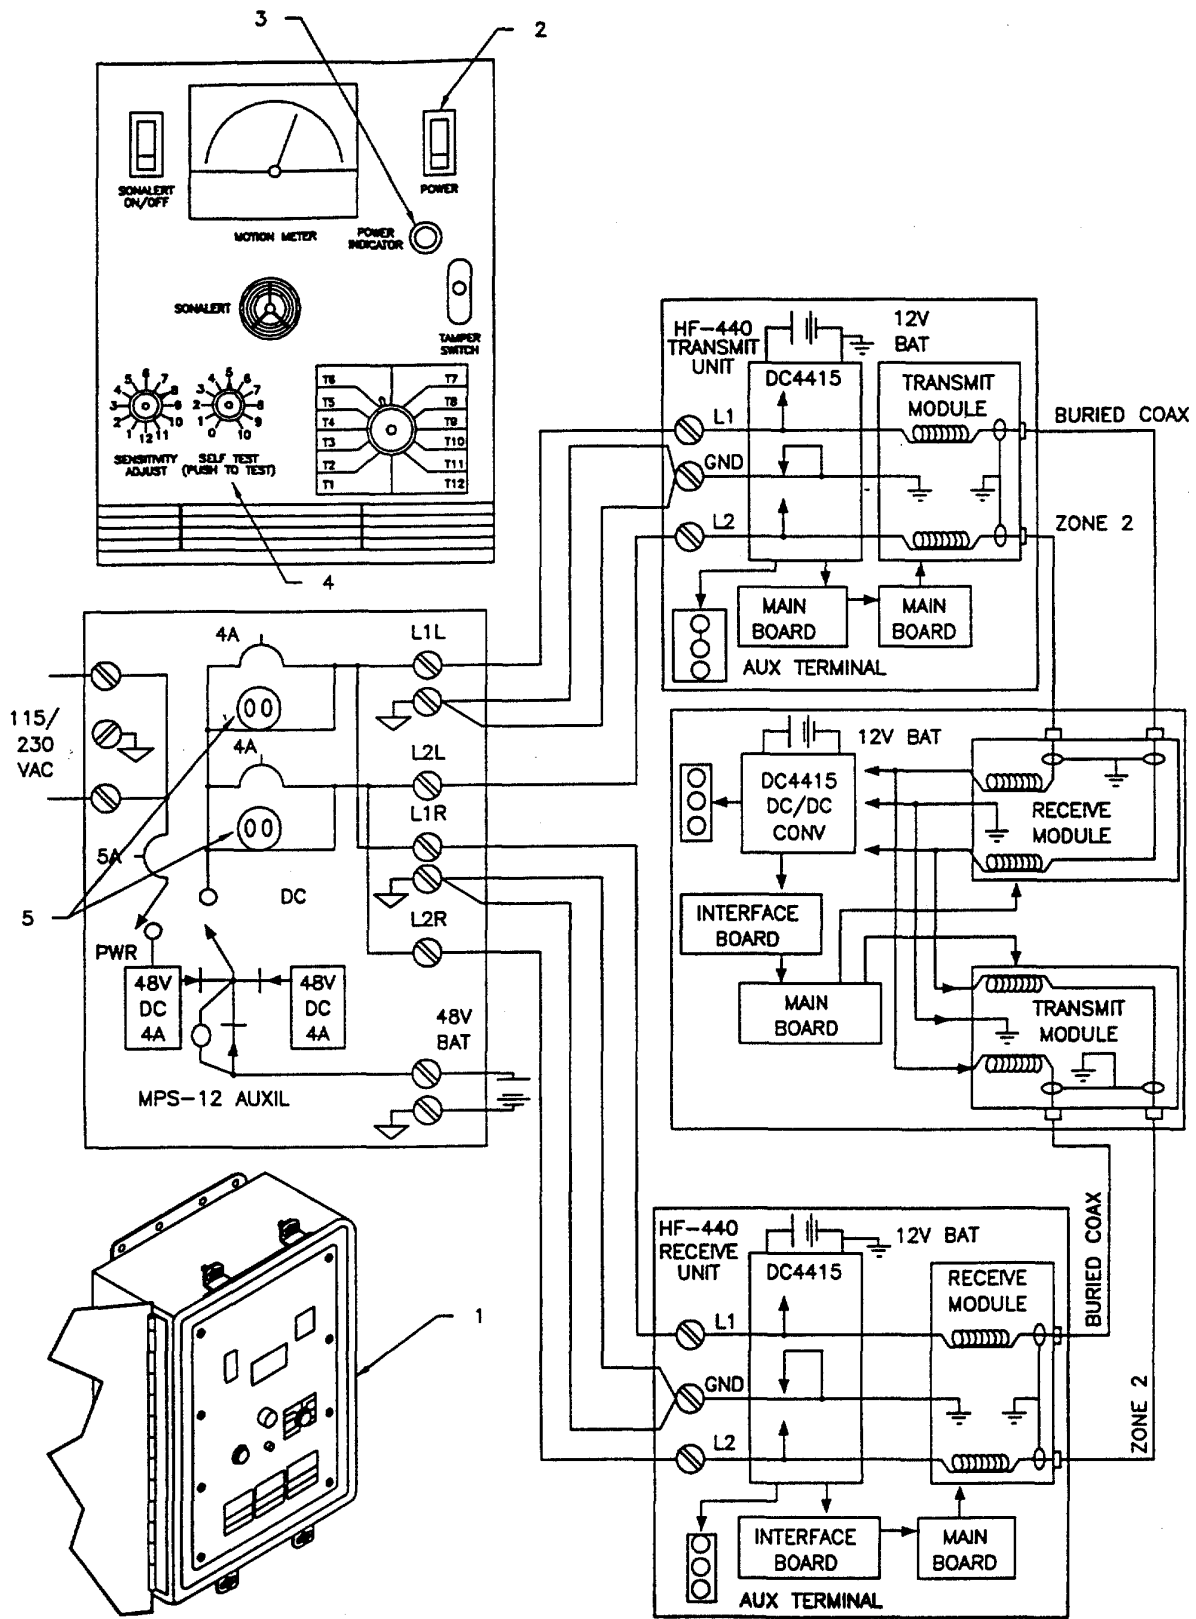

Figure 3-23. Ported Coaxial Cable Sensor General Block Diagram
14. SHORT/LONG PORTED COAXIAL CABLE SENSOR FAILURE (Figure 3-23)